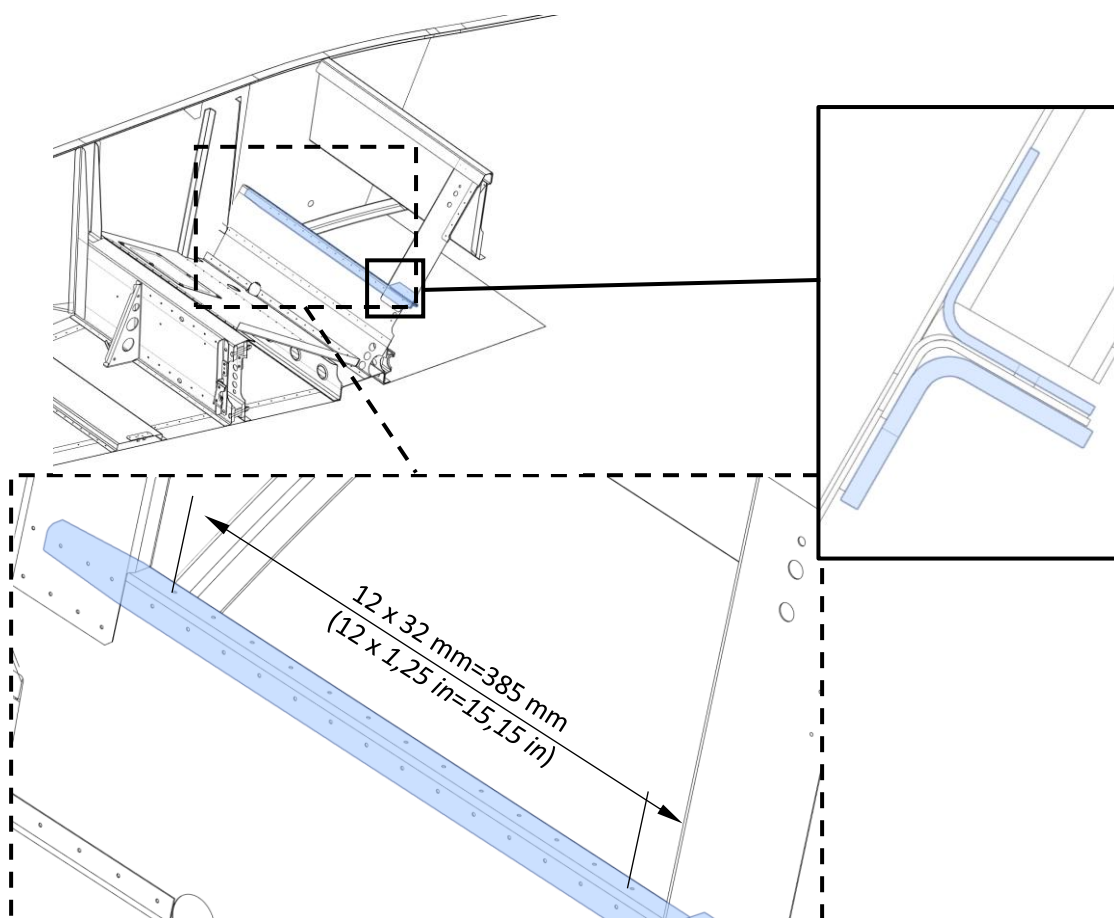

Fig. 3: Location of reinforcements (local cut)
- 10) Rivets are marked on the Fig. 3.
- 11) Drill \varnothing 4,2 mm (0,16 in) holes for rivets (003).